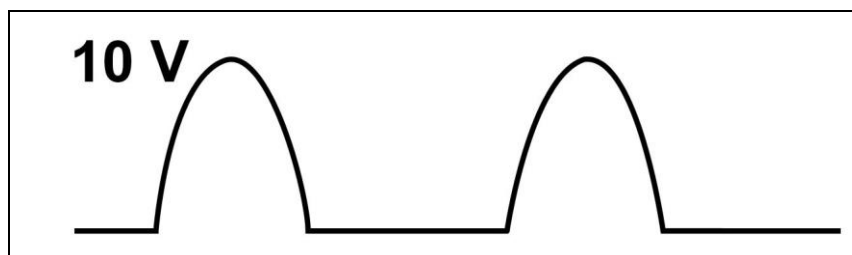

Fig. 3.1-26
3. What is the average value of the voltage shown in Fig. 3.1-26?